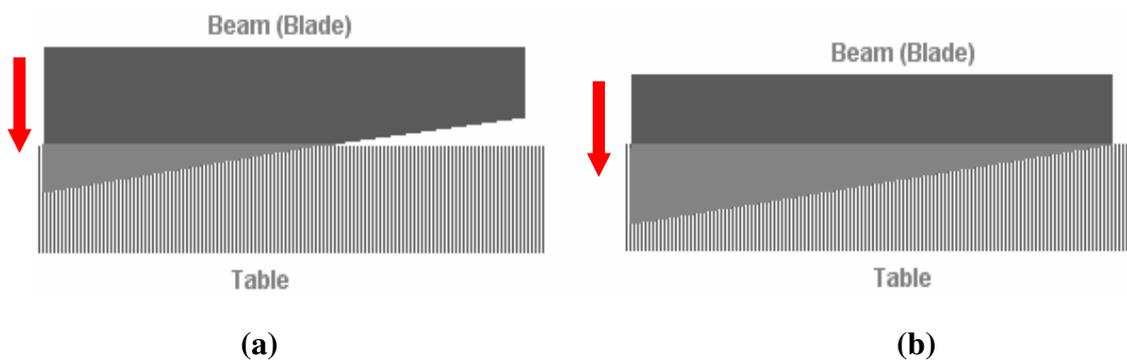

Figure 6.5.4.10
- a) **Single and Continuous cutting mode:** Select a cutting mode by turning the **cutting control switch** shown in **Figure 6.5.4.7** in CCW. You can select single cutting  or continuous cutting  mode.